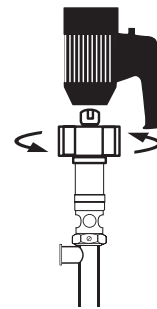

Figure 1 – Attach Motor by Turning Hex Nut Clockwise
3. Couple the electric motor to the pump using the hex nut (see Figure 1).